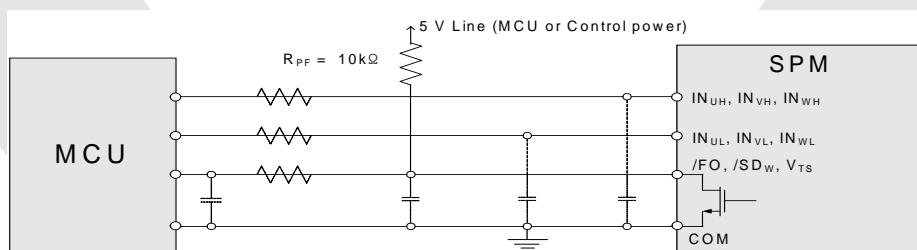

Figure 16. Recommended MCU I/O Interface Circuit
13. /FO is open-drain type. This signal line should be pulled up to the positive side of the MCU or control power supply with a resistor that makes I_{FO} up to 2 mA. *Please refer to Figure 16.*